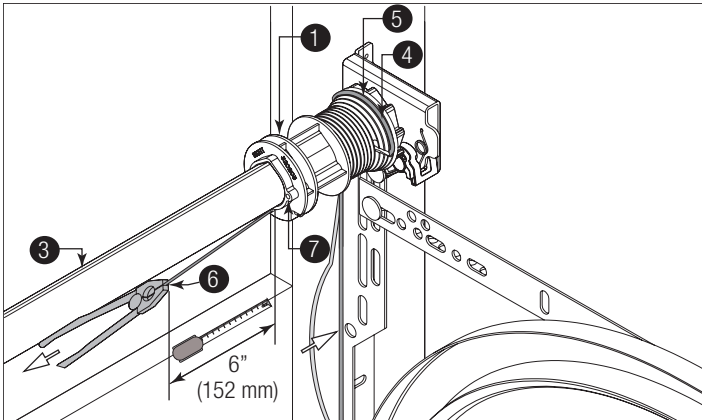

Figure 49, Right Side Shown
See Figures 49 through 51 for the following steps.
**NOTE:** Figures 49 through 51 shows the right side cable drum assembly. Repeat the process for the left side.